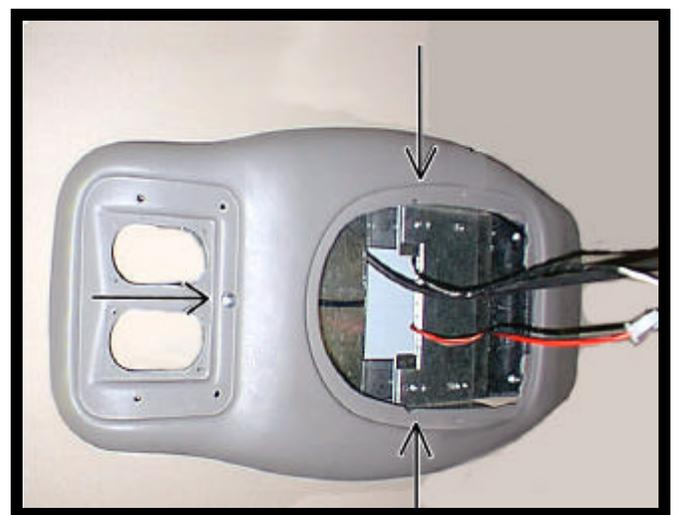

FIGURE 7
11. Raise console (item 8 pg.2) into approximate position against headliner. Loosely install using (2) two 6-32 x 3/4" screws (item 2 pg. 2) through the smaller holes in bracket on console into threaded clips on front mounting bracket. See Figure 7.
12. Using a scribe or similar tool, align hole in rear of console with slot in rear mounting bracket. Loosely secure rear of console using (1) one # 8 x 1 1/2" screw (item 4 pg. 2). Make sure console alignment is straight then tighten (2) two 6-32 screws previously installed. See Figure 7.